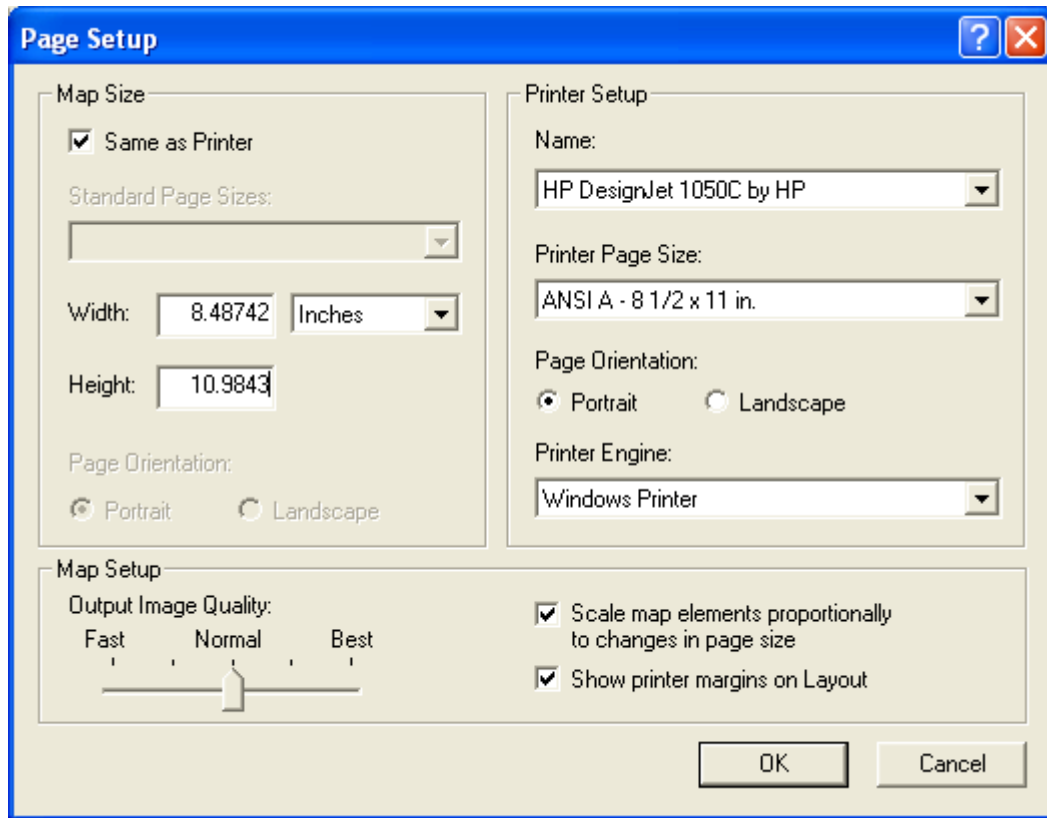
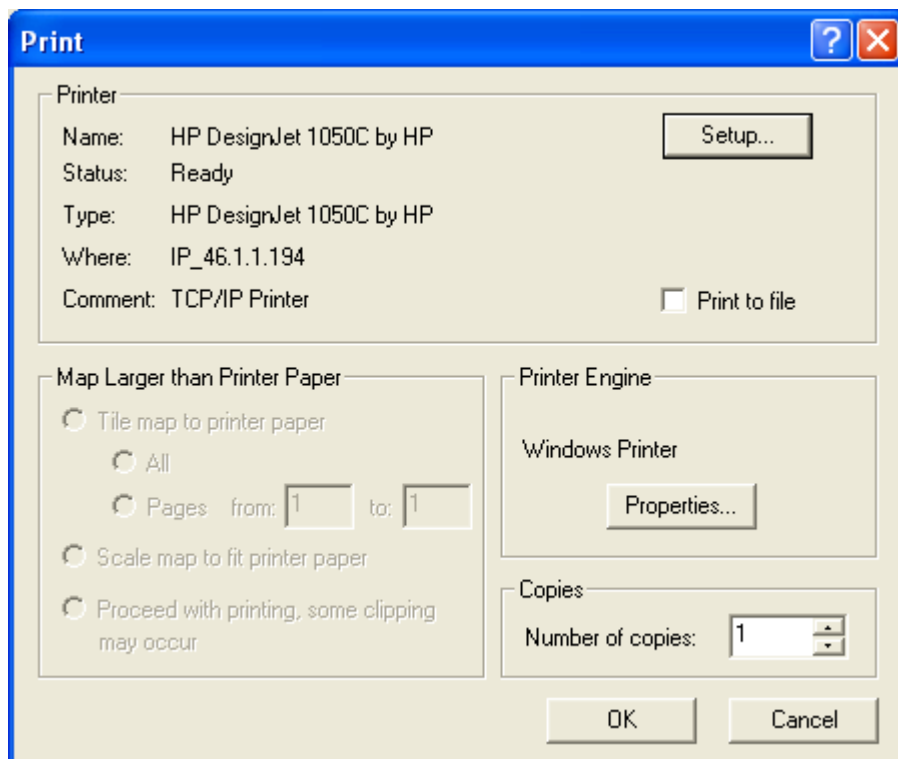
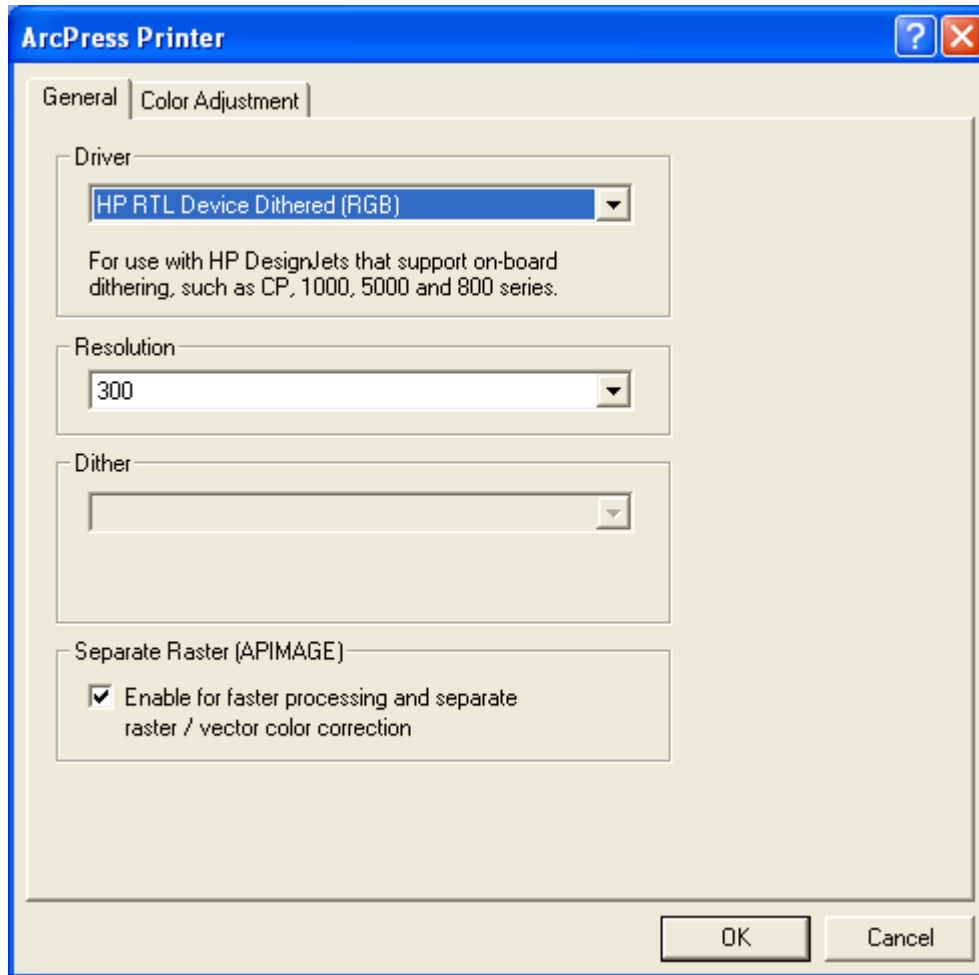

FIGURE 6: ArcMap Page Setup
FIGURE 7: ArcMap Print GUI
FIGURE 8: ArcMap ArcPress printer properties
Prior to setting up the map and adding the desired formatting, go to File > Page Setup (Fig. 6). This dialog box provides an opportunity to make the selections for paper size, printer, orientation, among others. It is recommended that you configure these options prior to the creation of the map so that all fonts, annotations, graphics, etc. are scaled to the desired page size.
In figure 6, the top left corner shows the “Same as Printer” check box.
In the upper right corner of the Page Setup is the Name section (Figure 6). This is where you select the printer you want to use for your print projects. It is important to note that your choice is actually selecting the printer driver for the printer. Because it is a printer driver you are selecting, not the printer itself, Windows allows the loading of more than one type of driver for a printer (Postscript, PCL, GL2, etc.). If you have more than one type of driver for your printer, the Name section is where you select the desired driver.
3. ArcPress is an extension that can be purchased for printing from ArcGIS. It is a software Raster Image Processor (RIP) that takes the original metafile and converts it first to Postscript, then to a format compatible with the printer as defined by the Driver selected in Figure 8. With these conversions, ArcPress “rasterizes” files before sending them to the printer, so the printer does not do the conversion. This is beneficial because some printers are not capable of rasterization or do not have the memory necessary to process large jobs.
The Setup button allows you to return to the Page Setup screen, shown in Figure 6.
In this section you can modify the Properties of the Printer Engine you selected in the Setup portion (Figure 6). Selecting the Windows or Postscript engine and clicking Properties in the Print dialog box (Figure 7) opens the Preferences section of that particular printer driver (see the printer manual for more information). Selecting ArcPress takes you to the ArcPress Printer properties (see Figure 8). Here you can configure ArcPress to work with your printer.
On the General tab, the dropdown list in the Driver section displays a list of pre-created ArcPress drivers. From the list, you select the driver that is compatible with your printer. Shown in the illustration in Figure 8, the properties of the selected driver provide a brief description of the driver's compatible printers.